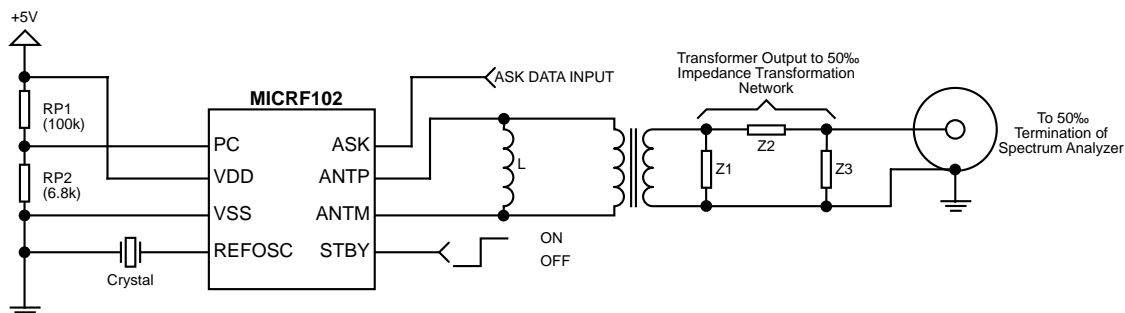

Figure 5. Application Test Circuit For Specification Verification
- Note 5.** Output power specified into a 50Ω equivalent load using the test circuit in Figure 5.